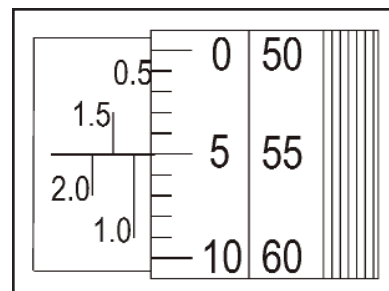

Figure 3
In Figure 3, the depth has been set to 0.55mm. Instead of having to add 0.5 and 0.05 in your head, you can simply reference the second set of numbers (55). The second set of numbers can also be referenced for depths between 1.50 and 2.00mm.